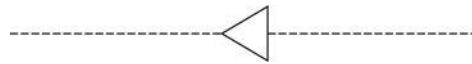

Fig. 20 Pneumatic operation signal pressure line
5. Pneumatic operation signal pressure lines should be drawn on one side of the squares, while triangles are used to represent the direction of air flow (Fig. 20).